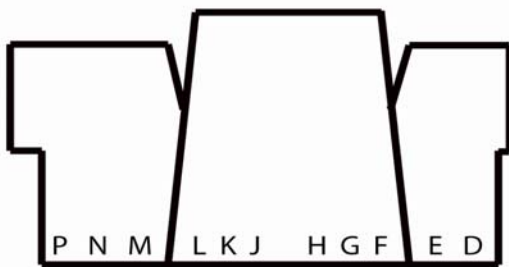

Figure 2-1
- Match factory wire with new terminal to appropriate slot on connector (Figure 2-1).
11. Once holes have been drilled, support bracket and column seal can be mounted to firewall as shown in illustration. (Figure 2-1)